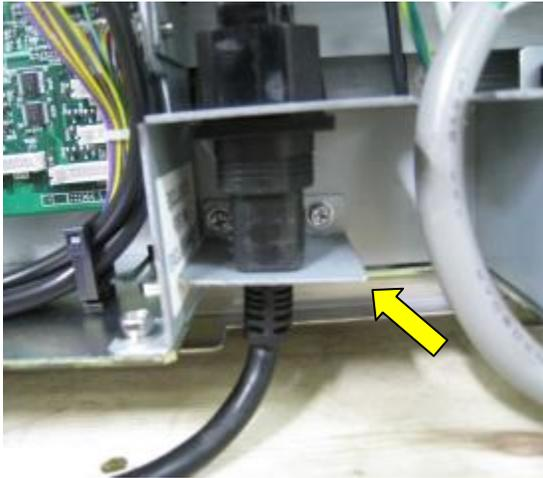

Figure 3.2. "U" Plate Securing Power Cord
- ii. Mount the "U" plate using two screws to secure the Uni-7 power cord. See Figure 3.2.